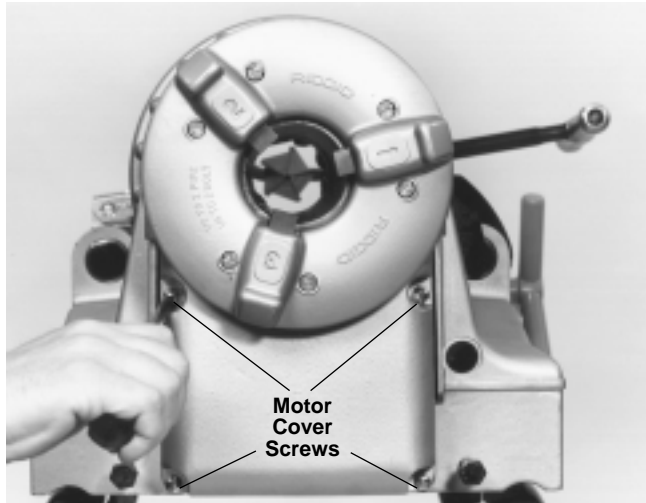

Figure 28 – Loosen And Remove Motor Cover Screws
2. Fully loosen four screws that hold motor housing cover in place and remove motor housing cover (Figure 28).